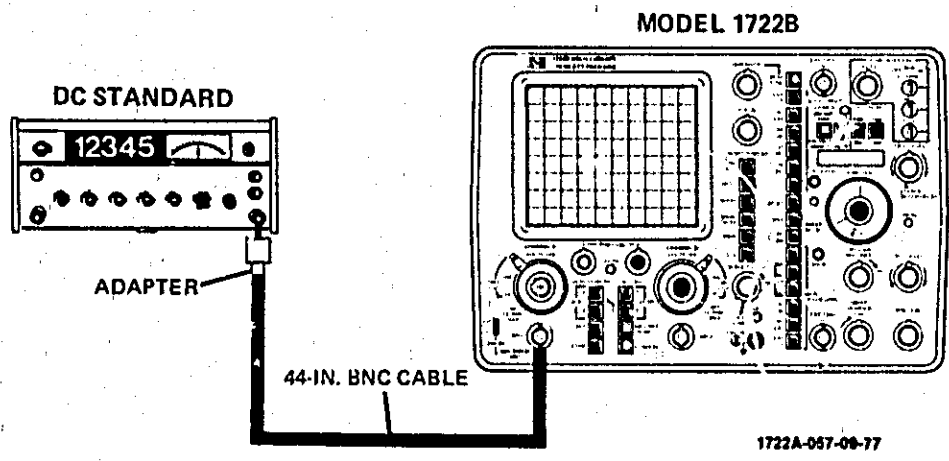

Figure 5-20. Digital Voltmeter Test Setup
- a. Connect equipment as shown in figure 5-20.